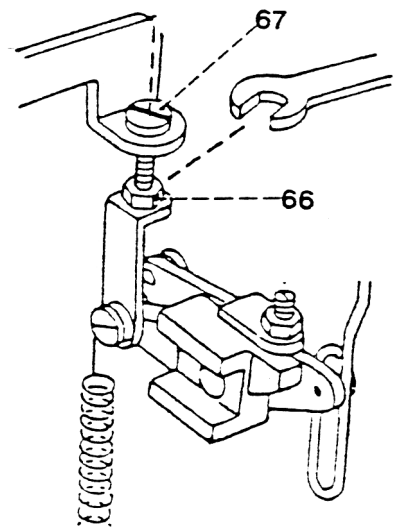

Fig. 31b
- Loosen lock nut 66 (fig. 31b) using a 5.5 mm socket wrench.
- The adjusting screw 67 of the reversing bar must be positioned in the connector (fig. 31b).